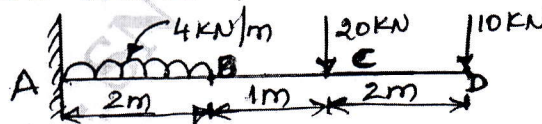

Fig.Q.7(b)
- b. Find the slope and deflection at the free end of the cantilever beam as shown in Fig.Q.7(b). Take the Youngs modulus $E = 200 \text{ kN/mm}^2$, $I = 40 \times 10^6 \text{ mm}^4$. (10 Marks)